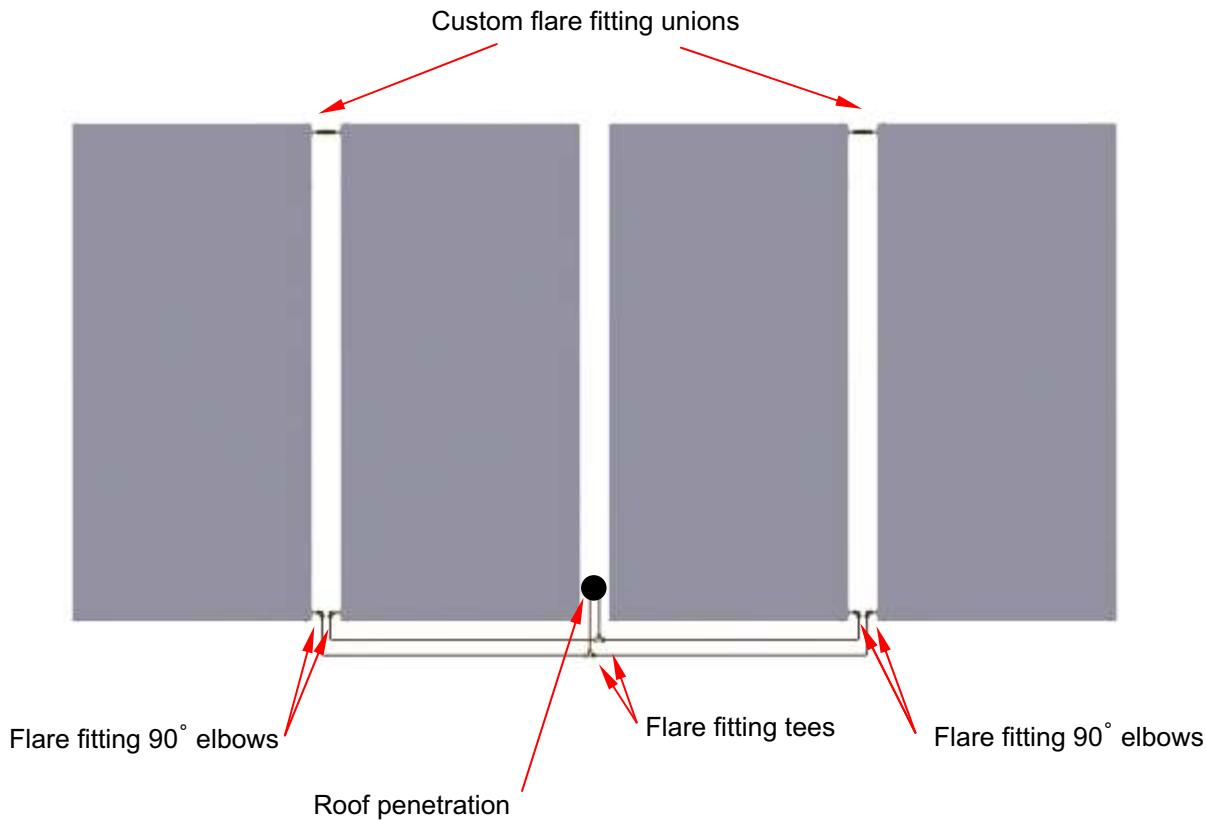

Fig. 6.4.4 – Four collectors configuration.
1. Position the middle two collectors on either side of roof-penetration with connection tubes pointing out (Fig. 6.4.4). Temporarily use center-flashing to achieve correct spacing of middle collectors and secure them to C-channel.